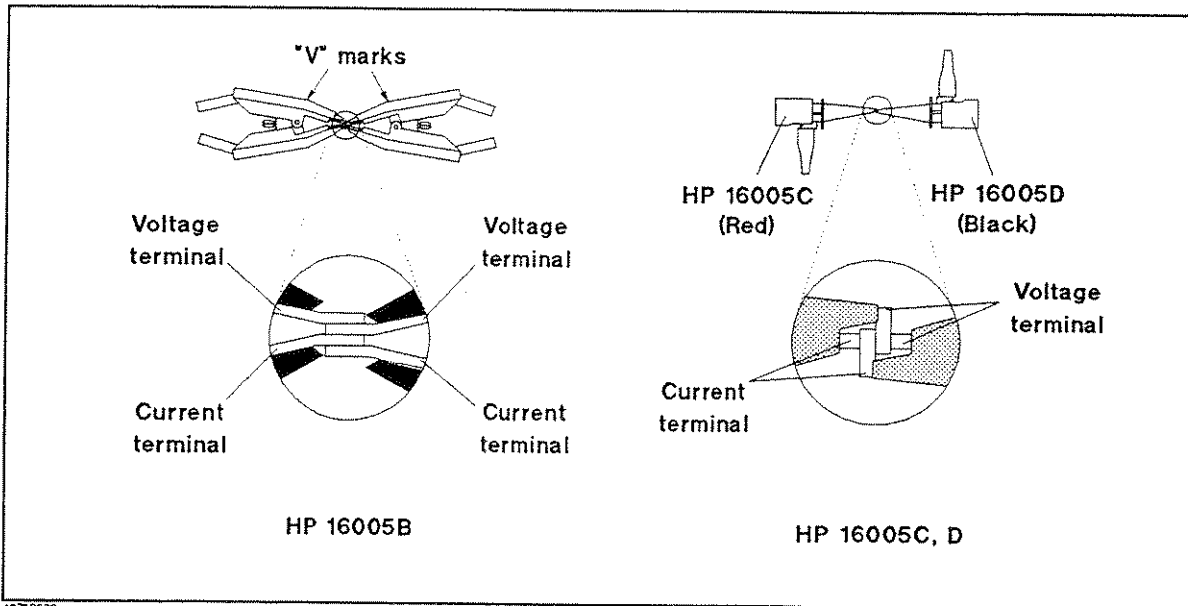
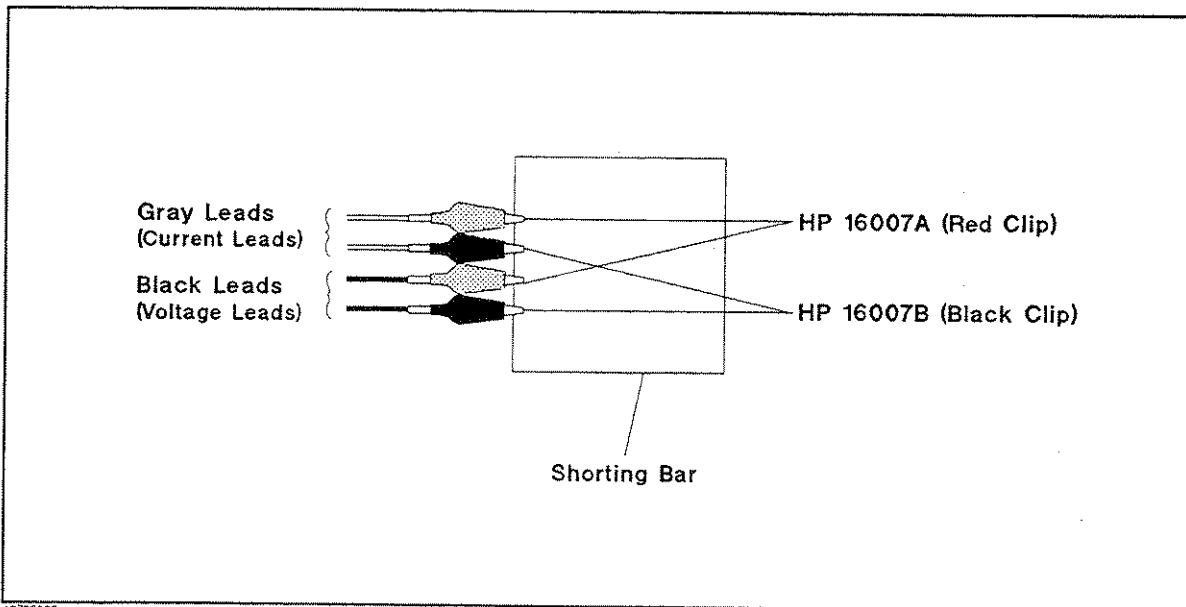

Figure 3-2. Making a Shorting Connection for the HP 16005B, C, D
Figure 3-3. Making a Shorting Connection for the HP 16007A, B
1. Connect the test probe clips together as shown in Figure 3-2 and Figure 3-3.
1. Connect the test probe clips as shown in Figure 3-2 and Figure 3-3.